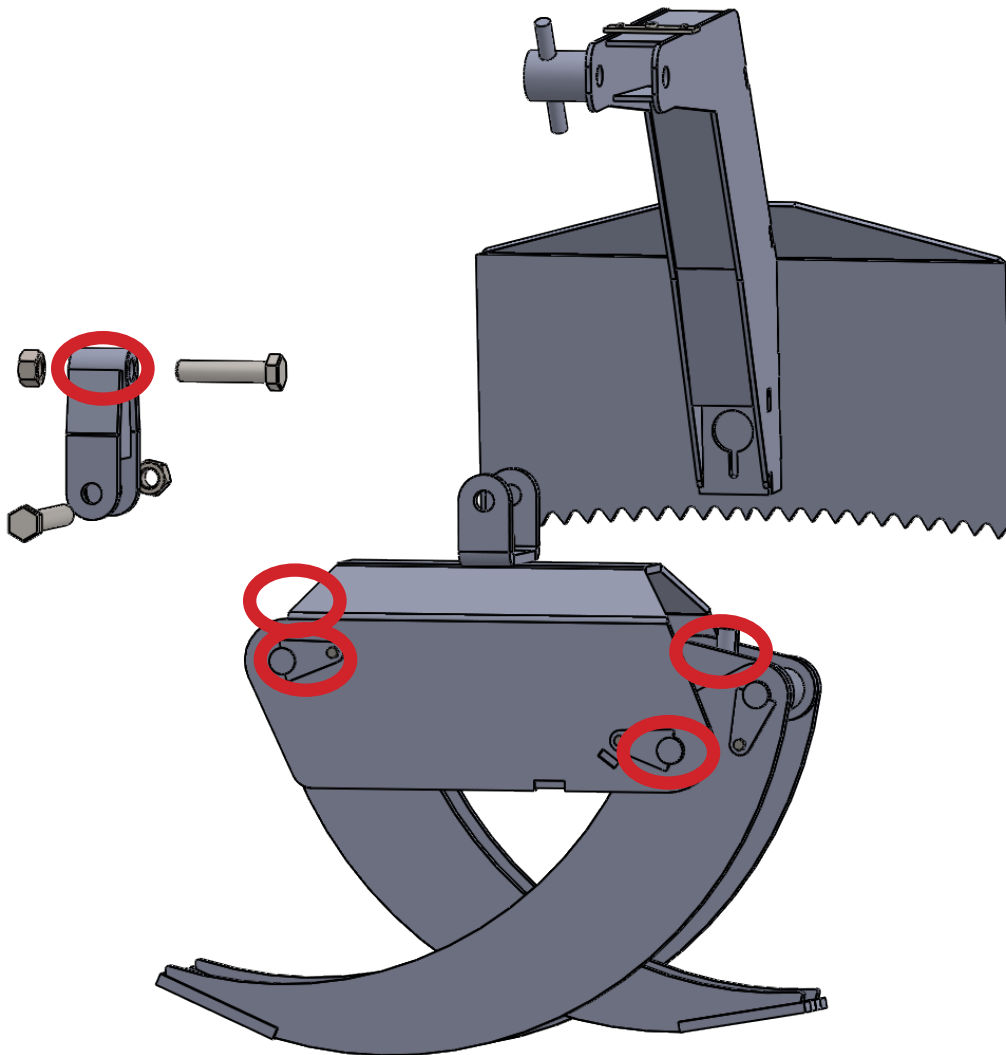

Figure 1
Lubricate all grease points as shown in Figure 1 on page 16.
There are five (5) grease points on the log grapples. See Figure 1 for each location. The attachment does not need disassembled for greasing. However, the tines may need opened or closed to allow for the grease gun to reach the zerk. Ensure that the machine is turned off during service and that the lift arms with lockout braces are supported if the arms are lifted. Grease every 8 hours of use.